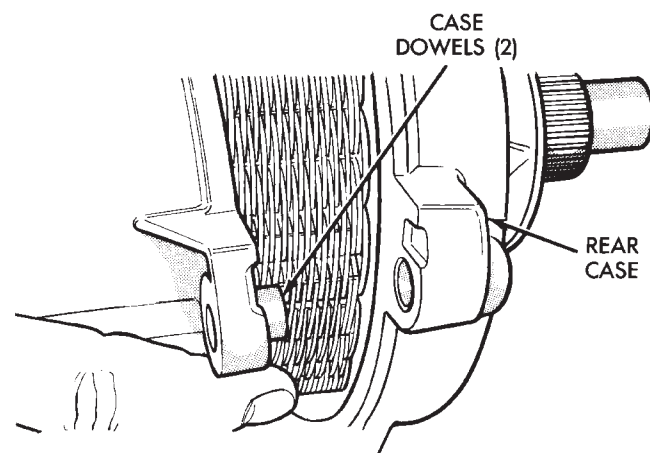

Fig. 26 Removing Rear Case From Alignment Dowels
(6) Unseat rear case from alignment dowels (Fig. 26).
(7) Remove rear case and oil pump assembly from front case.